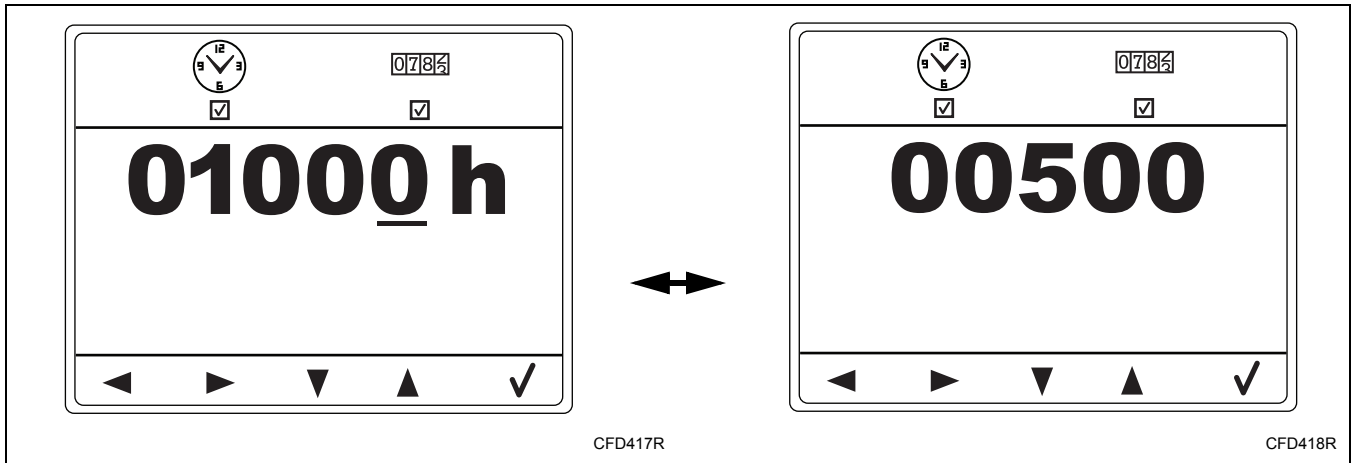

Figure 73
3. Edit the number of hours or cycles by pressing the keypads below the Navigation icons. Refer to *Figure 73*.
4. Confirm by pressing the keypad below the Check icon. Refer to *Figure 73*.